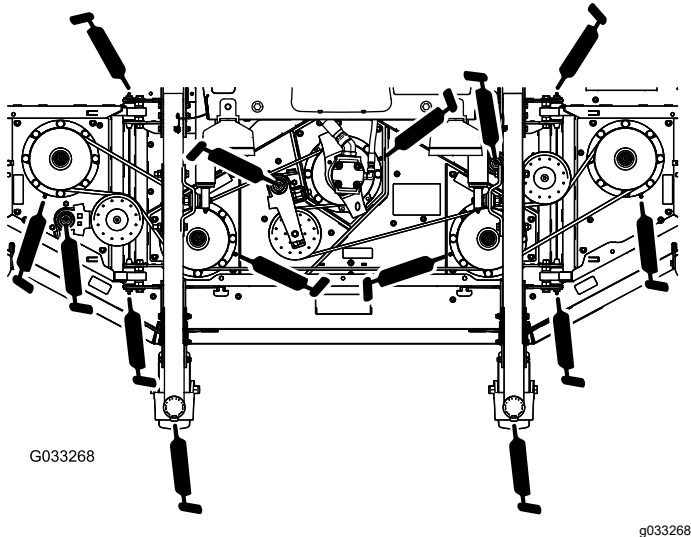

Figure 83
- 2 caster-fork-shaft bushings (Figure 83)
- 5 spindle-shaft bearings (located on the spindle housing) as shown in Figure 83
- 3 idler-arm-pivot bushings (located on the idler-pivot shaft) as shown in Figure 83
- 4 winglet-deck bushings (located on the winglet-pivot pins) as shown in Figure 83